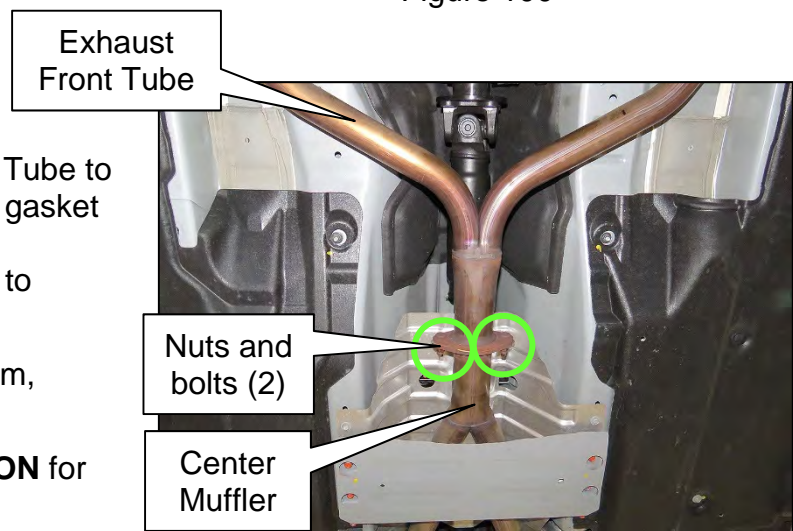

Figure 101
161. Reconnect the Exhaust Front Tube to the Center Muffler with a new gasket and two (2) nuts and bolts (Figure 101), and then torque to specification.